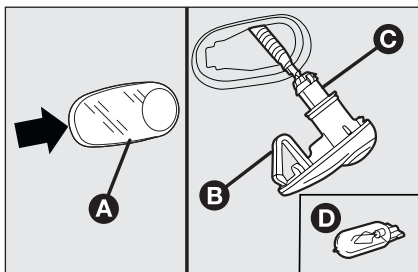

fig. 24
- ☐ push the transparent cover **A**-fig. 24 to compress the internal catch **B**, then remove the unit;